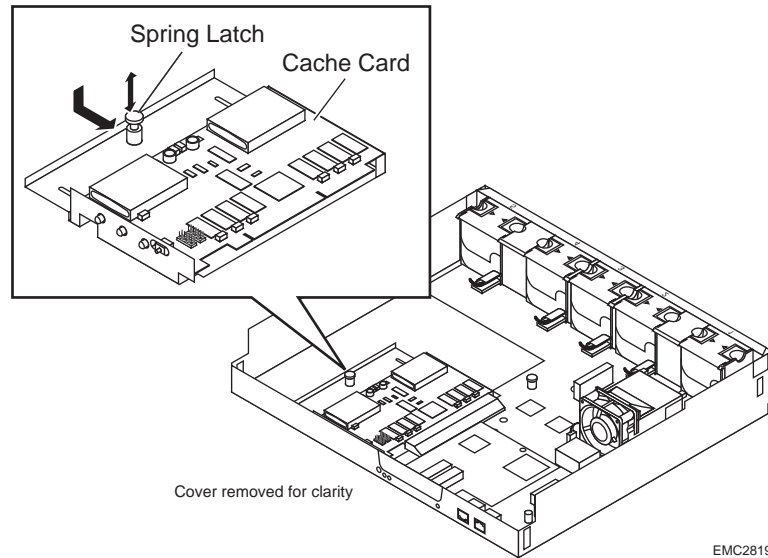

FIGURE 9. Connecting the Cache Card to the Motherboard (knob latch)
STEP 3. If your cache card assembly includes a metal spring latch knob, pull it up as you carefully push the cache card down and into the connector; then release the latch to secure the card in position, as shown in Figure 9.